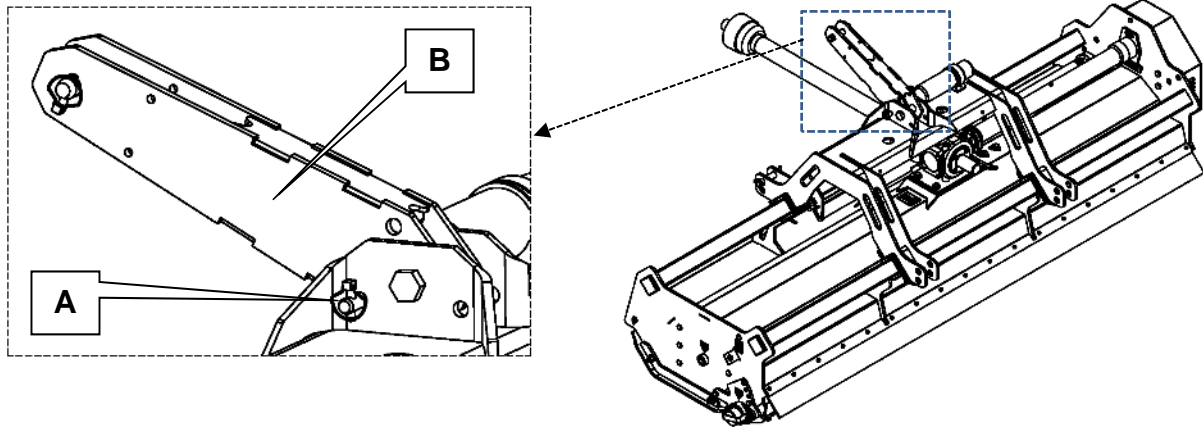

Figure 1.8
1.5.1.2 The machine is normally supplied configured for rear mount, see Figure 1.8.
1.5.1.3 Remove lynch pin Figure 1.8 (A) and rotate Top link arm Figure 1.8 (B) to the rear and refit lynch pin.